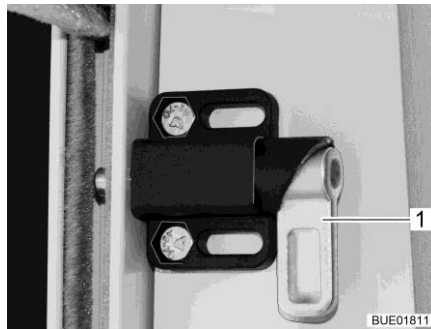

Fig. 104 Securing latch, windscreen shade
- Turn the securing latch (Fig. 104,1) upwards on both sides.
- Turn the securing latch (Fig. 104,1) downwards on both sides.